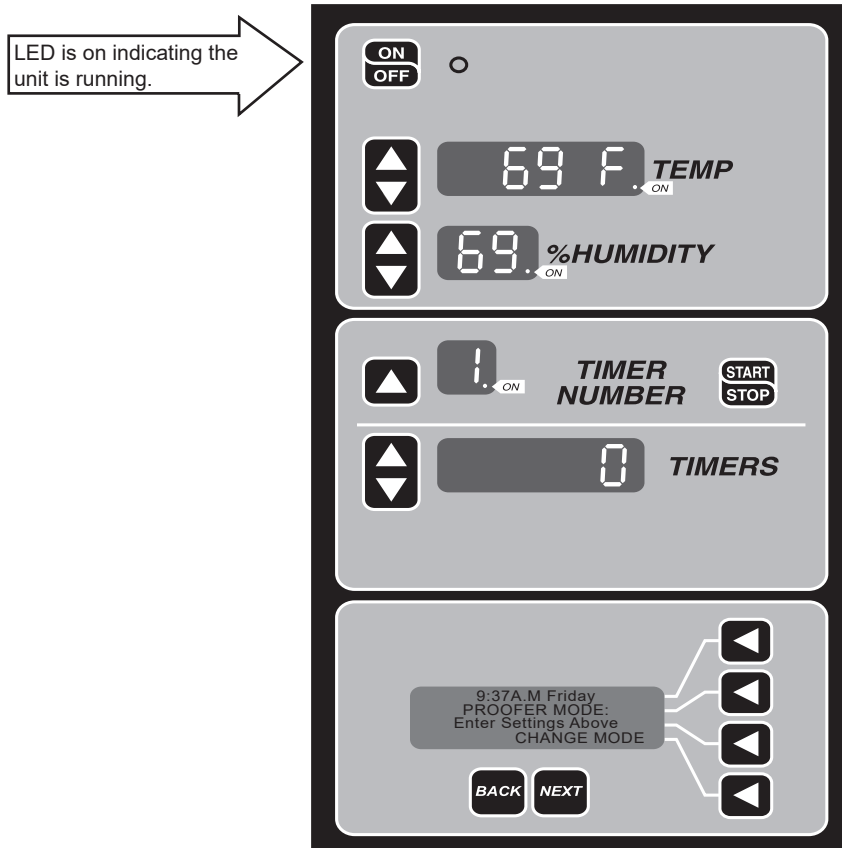

Fig. 3
- Enter the desired temperature (65°F - 115°F) by pressing up or down arrow button (Fig. 3).